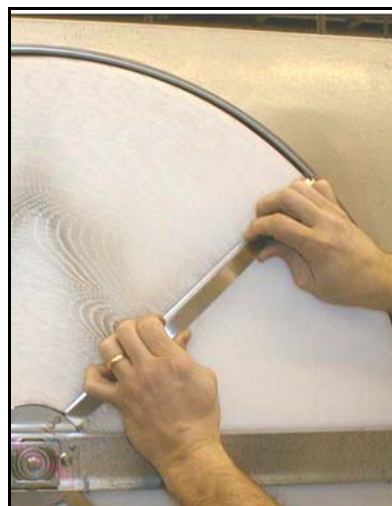

Figure 16 Remove retainer straps.
- 4 From the pulley side, unhook the flexible retaining strap on each side of the segment from the wheel rim and then remove both straps, Figure 16.
- 6 Rotate wheel and remove remaining two retaining straps, Figure 16.
- 3 Install the flexible retaining straps by inserting the ends under the hub plate and then into the slot on the rim at the end of the spoke, Figure 16.